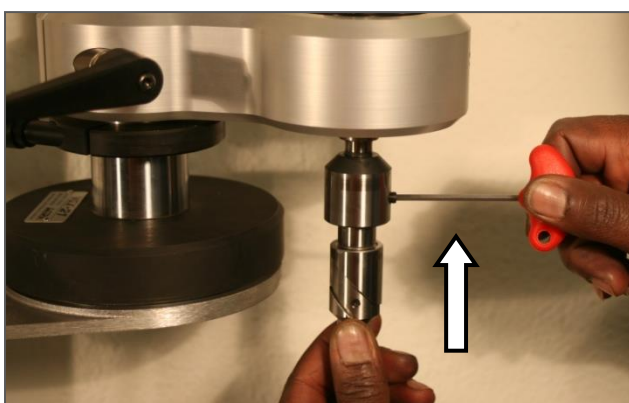

Fig. 7
3. Clamp the VGX-21 on the storage table (AT) or on a clean workbench surface by activating the magnet base (Pos.1), clamp the pivot arm and lock the star grip. Select a suitable tool-head (see the MIRA formtool catalogue) for optimal valve seat processing. Insert the tool-head firmly into the spindle. Control that the markpoint of the tool-head and the setscrew of the spindle guide are aligned (Fig. 7). For further informations see "Changing tool-heads" on page 26.